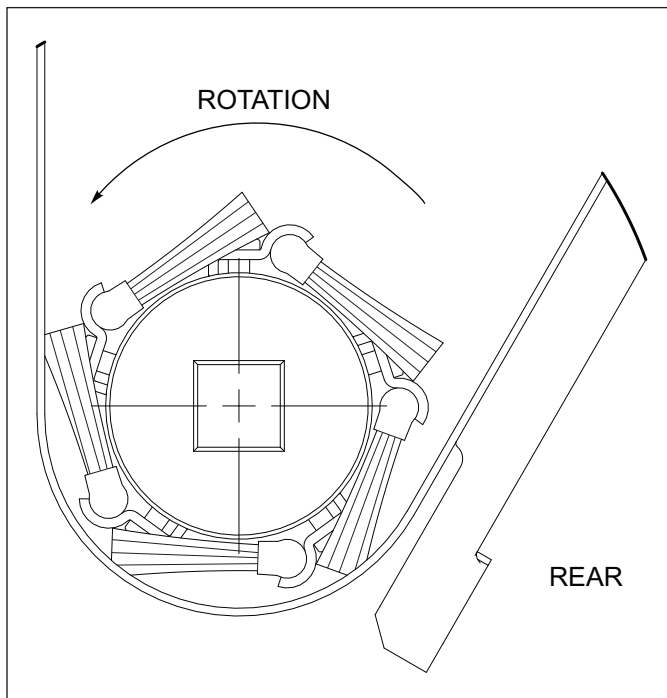

Figure 2-57: Brush Agitator Shaft Rotation
5. See the above Shaft Rotation Diagram. **See Figures 2-57 and 2-58.** Brush/Blade agitators must be installed with careful attention to the direction of shaft rotation. The brushes must face backward, away from rotation to wipe over the seed openings.